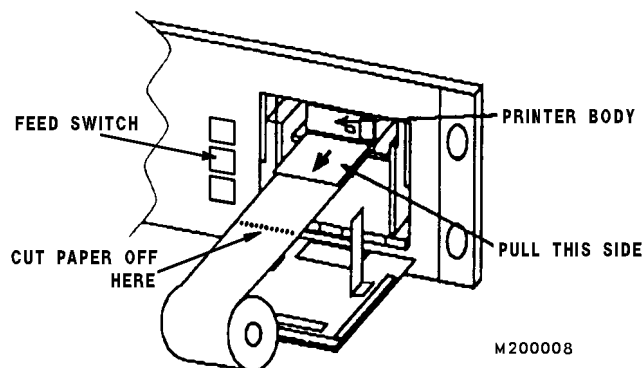

FIGURE 20-5. CLEARING PAPER PATH
1. If the printer's FEED and PRINT switches don't work, check the printer paper for clogging. Cut off the paper as indicated (Figure 20-5), then slowly pull out the upper side of the paper that remains inside of the printer.